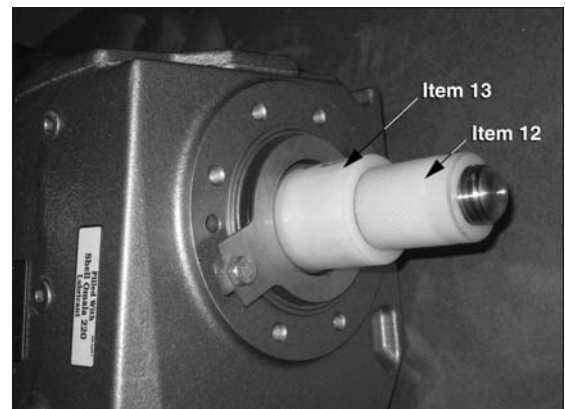

Figure 14
- Slide the nylon locking knob (item 12), unthreaded end first, onto the threaded end of the shaft until the shaft comes into contact with the threading on the locking knob. Screw the locking knob onto the shaft until it comes into contact with the nylon spacer. The locking knob must be tightened and kept tight. (A vise grip or channel-lock pliers may be used; however, over-tightening will damage the knob and possibly the seal and/or snap ring as well.) See Figure 14.